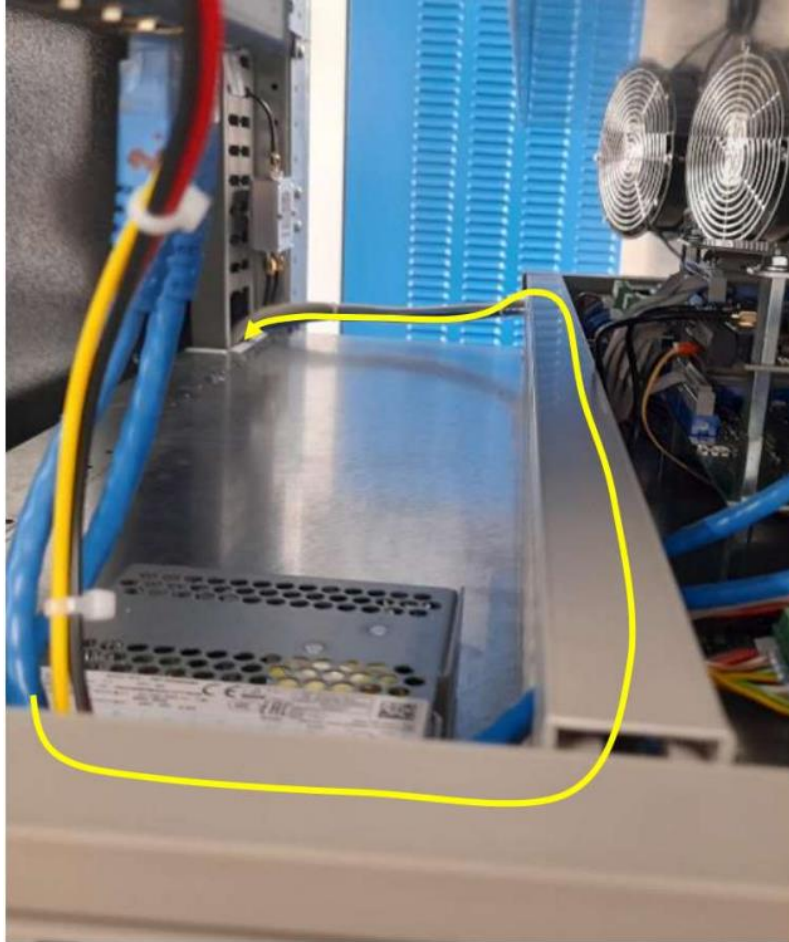
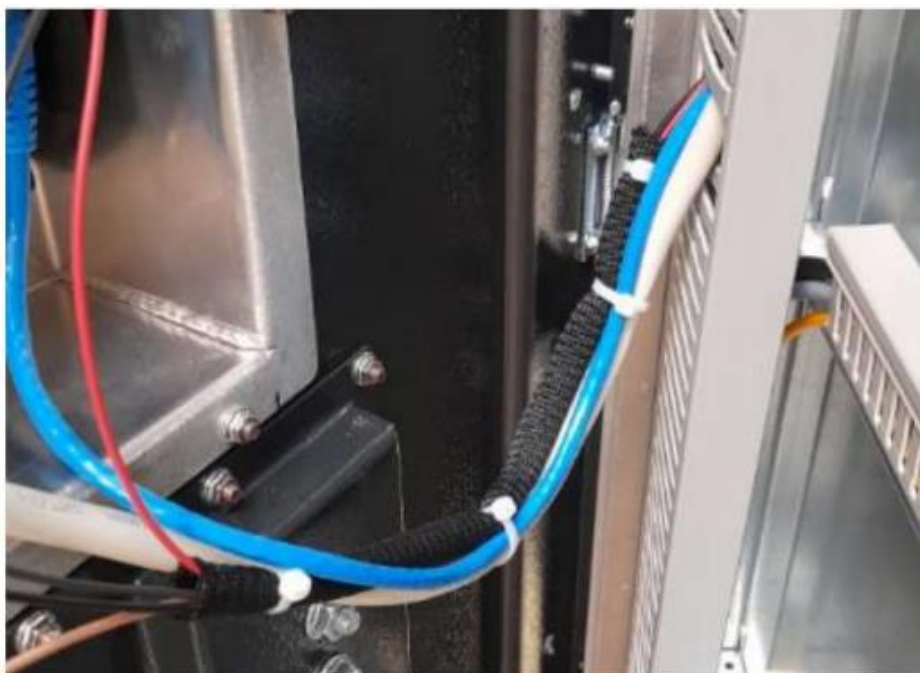

Figure 42. *Front Apollo Ethernet cable routing*
Figure 43. *Front Apollo Ethernet cable routing*
Step 1 Connect switch "SW2" LAN port 2 to front Apollo terminal according to Figure 42 and Figure 43.